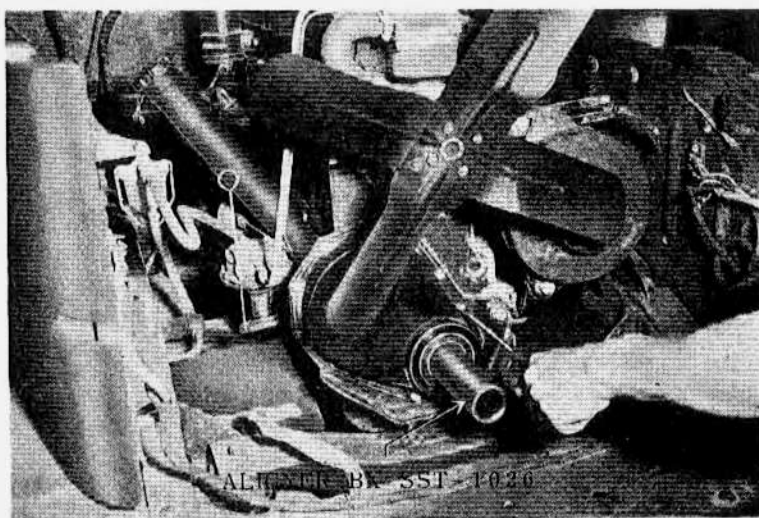

Figure 42 – Timing Gear Cover Installation
(1) Make certain that cover mounting face and crankcase front end plate face are clean.
(2) Install crankshaft oil deflector.
(3) Install timing gear cover aligner (BX SST-1026) over end of crankshaft.
(4) Coat the rubber oil seal with light grease and using new cover gasket, install cover and gasket over aligner (Fig. 42).
(5) Install cover screws and two bolts, tightening bolts to 12–20 foot pounds torque. Remove aligner.